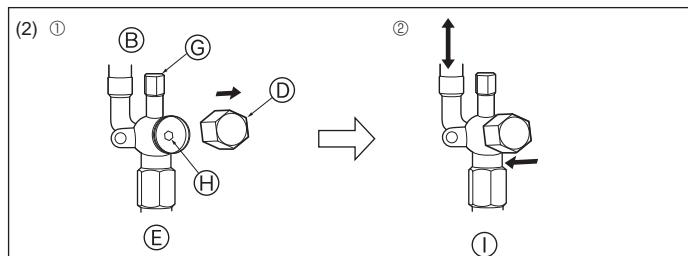

Fig. 4-10
- ① Remove the cap, pull the handle toward you and rotate 1/4 turn in a counterclockwise direction to open.
- ② Make sure that the stop valve is open completely, push in the handle and rotate the cap back to its original position.
- (2) Liquid side (Fig. 4-10)
- ① Remove the cap and turn the valve rod counterclockwise as far as it will go with the use of a 4 mm hexagonal wrench. Stop turning when it hits the stopper. (ø6.35: Approximately 4.5 revolutions) (ø9.52: Approximately 10 revolutions)